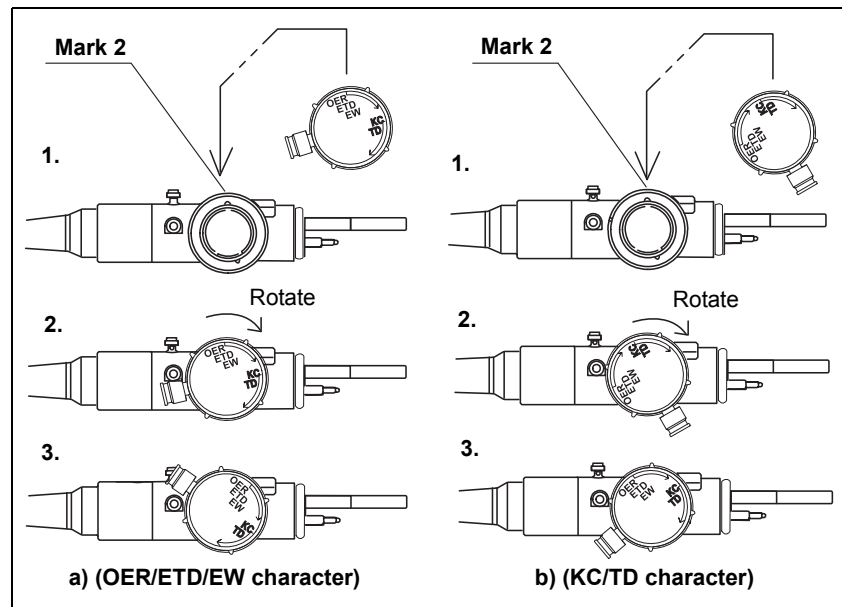

Figure 3.16
1. Align the OER/ETD/EW character (see Figure 3.16 a), the EW character or KC/TD character (see Figure 3.16 b) on the water-resistant cap with mark 2 on the electrical connector housing.